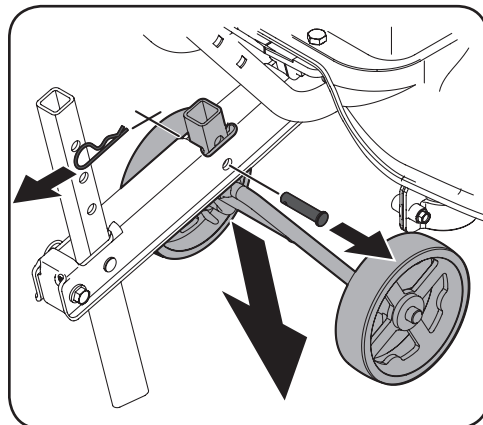

Figure 3-8
1. Remove the clevis pin and cotter pin from the wheel assembly. See Figure 3-8.